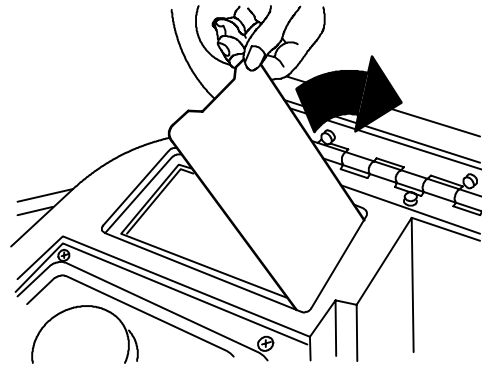

FIG. 50
4. ES option: Hinge open recovery tank to access solution tank. Lift solution tank cover and flush out solution tank with clean water. Rinse filter at bottom of solution tank (Figure 50).